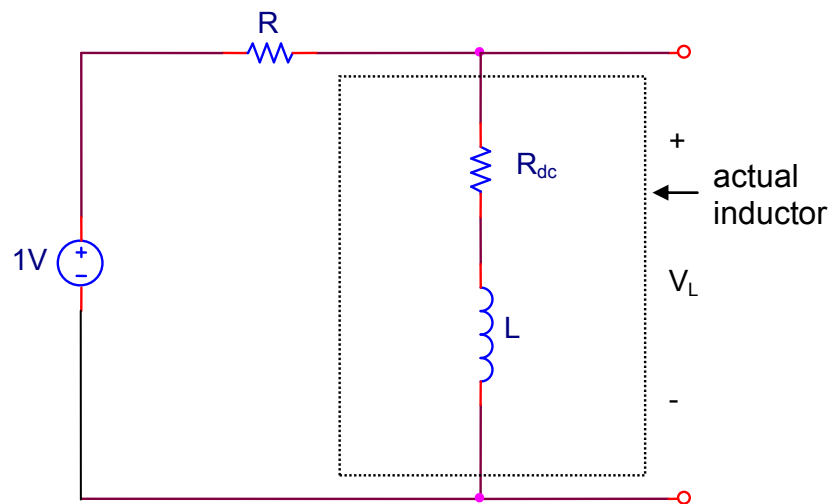

Figure 7.5
3. An "actual" inductor can be modeled as a resistor in series with an ideal inductor. If the circuit in Figure 7.5 is constructed with a one volt d.c. source, show that: